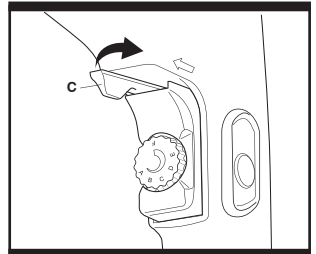

Fig. 7
5. FORWARD AND REVERSE ROTATION CONTROL (Fig. 7)
To select forward rotation for normal drilling operation, push the forward/reverse control (c) as indicated (Fig. 7). Use reverse rotation to release a jammed drill bit only.